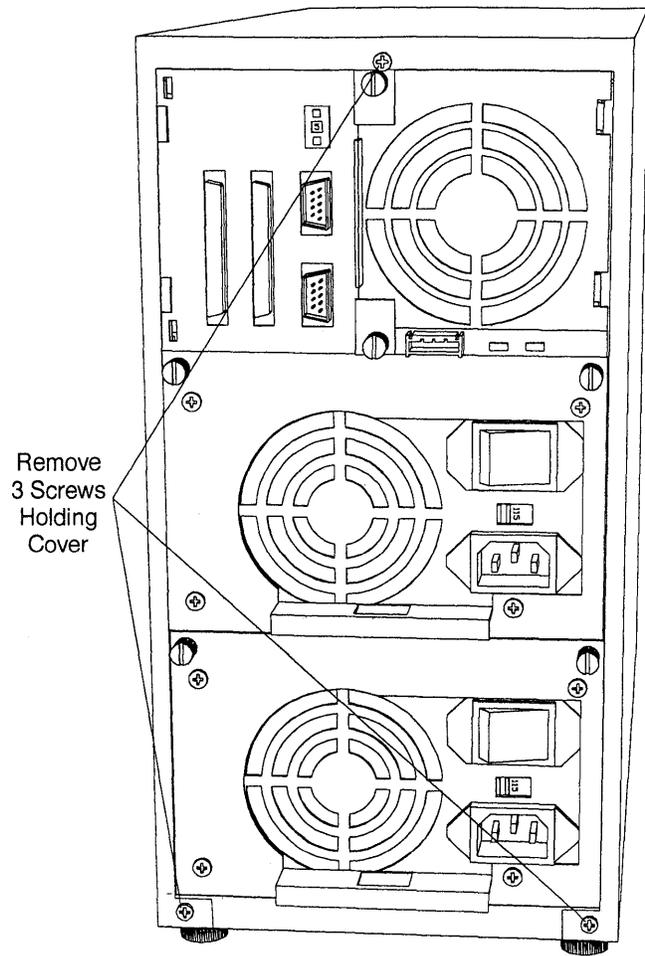

Figure 1-10: Remove screws holding cover
- 1 Unscrew the three screws holding the Daytona's cover in place and remove the cover. See Figure 1-10.